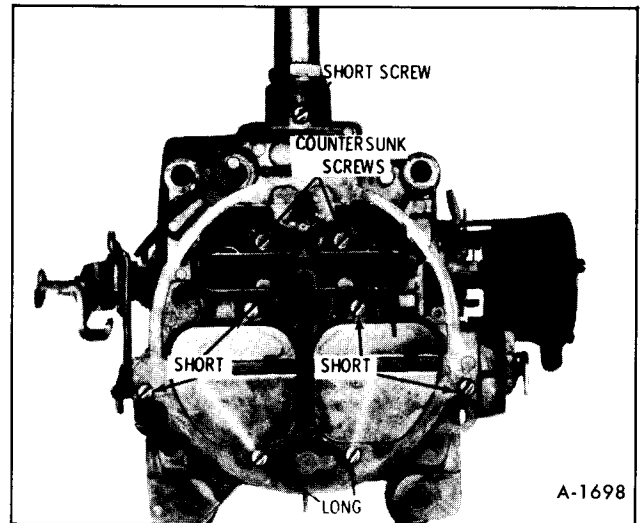

Figure 12—Air Horn Attaching Screws
5. Remove nine air horn to bowl attaching screws; two attaching screws are located next to the primary venturi. (Two long screws, five short screws, two countersunk screws.) See Figure 12.